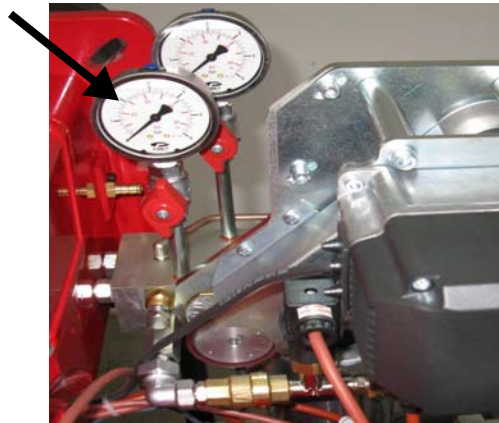

Fig. 17
**ATTENTION:** set the pressure value about 1 bar, at the pressure gauge 47 (see Fig. 17). check it before open valve 16!